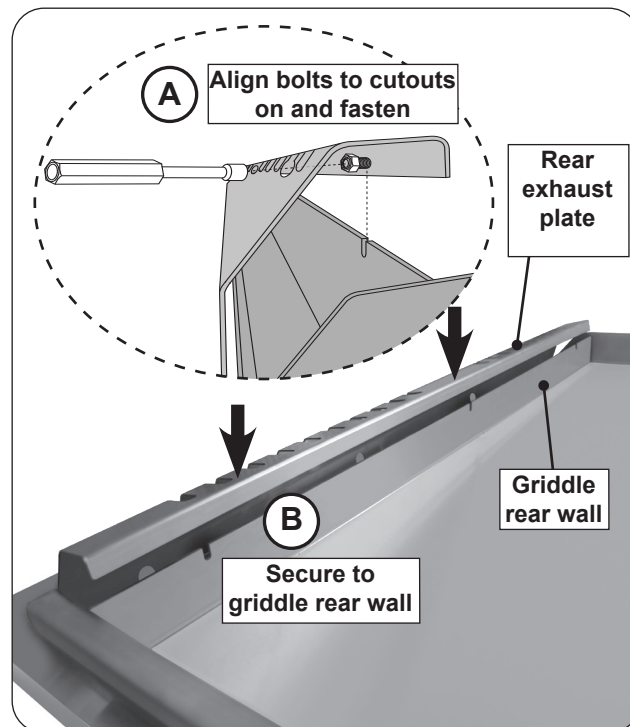

Fig. 31-3 Install rear exhaust plate
1. Take the rear exhaust plate and align the three bolts (with pre-installed nuts) to the three cutouts on the griddle rear wall (see Fig. 31-3, A).
2. Fasten the nuts using a nut driver. Insert nut driver through the rear vent slots to tighten (see Fig. 31-3, A & B).